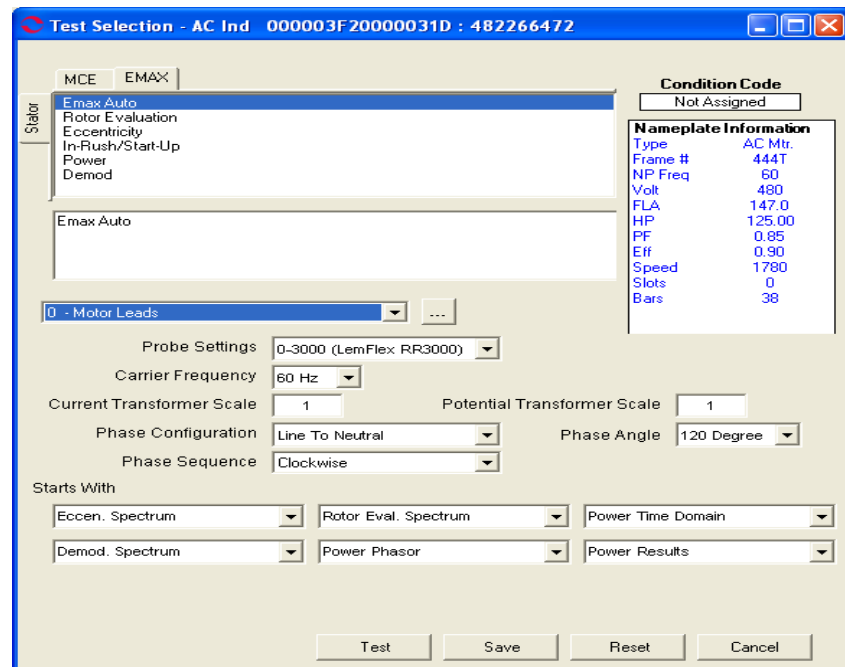

Figure 6-16: EMAX Auto Test Selection Window
4. Select the Test Selection icon  on the toolbar. The Test Selection window, shown in Figure 6-16 opens.